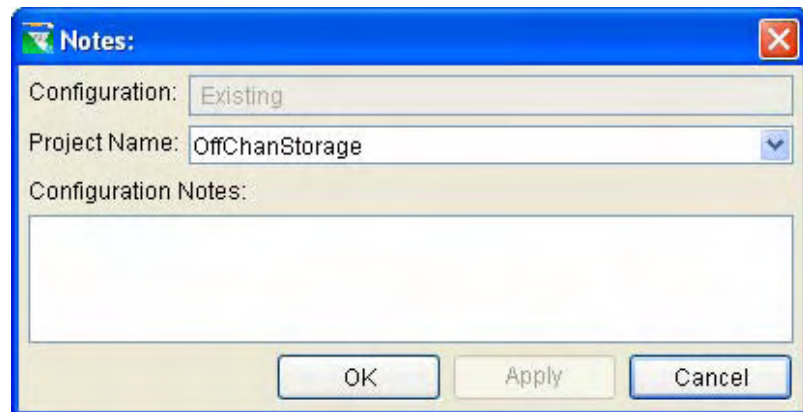

Figure 6.22 Configuration Notes for Off-Channel Storage
2. From the shortcut menu, select **Configuration Notes**. This command opens a dialog box for entering text information about an Off-Channel Storage Area project that is specific to the configuration (Figure 6.22).